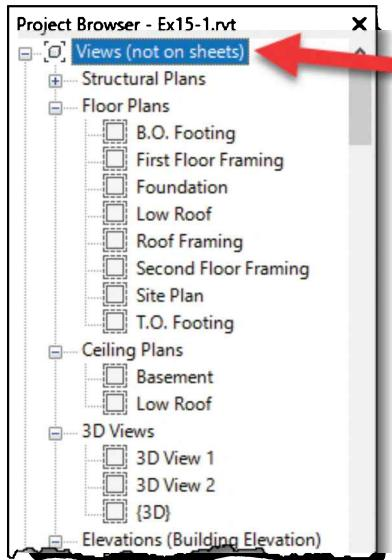

FIGURE 15-1.11 Project Browser
32. Notice the list in the *Project Browser* is now smaller (Figure 15-1.11).